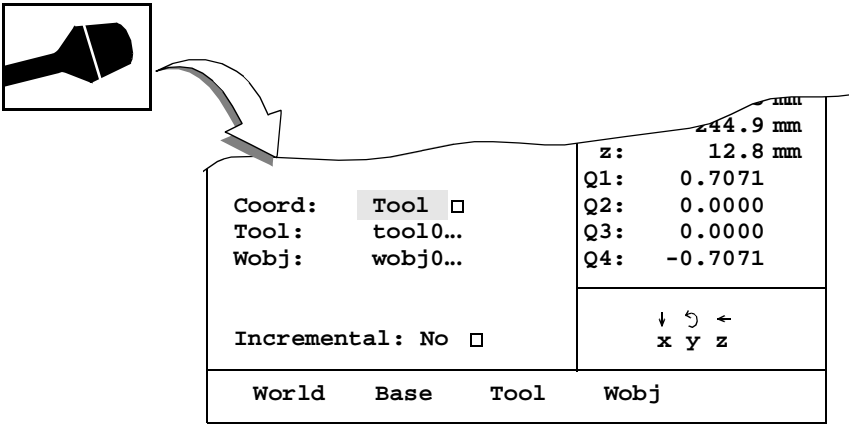

Figure 6 Specify the coordinate system in the Jogging window.
- Select the field **Coord** (see Figure 6).